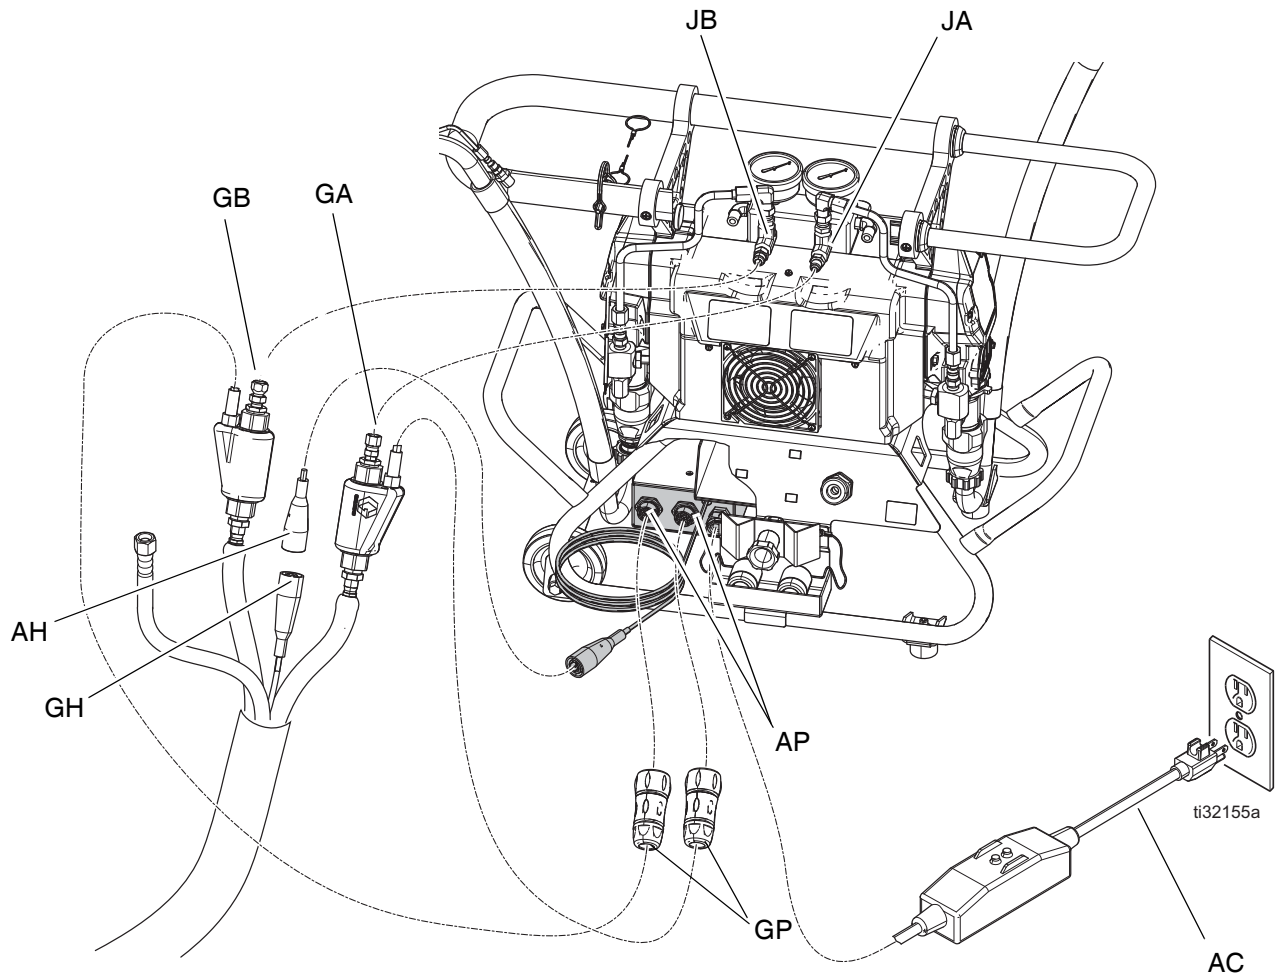

FIG. 15: E-8p Hose Installation (120 V shown)
2. Attach the heated hose inlet fittings (GA, GB) to the E-8P outlet manifold (JA, JB). See FIG. 15.
3. Connect the hose power cords (GP) to the control box connectors (AP).
4. Connect the FTS cable (AH) from the control box to the hose FTS extension cable (GH).
5. **Purge Air and Flush Fluid from Lines (Prime)**, page 32. Ensure clean material is exiting both fluid hoses before connecting the control module power cord (AC) to a power source.